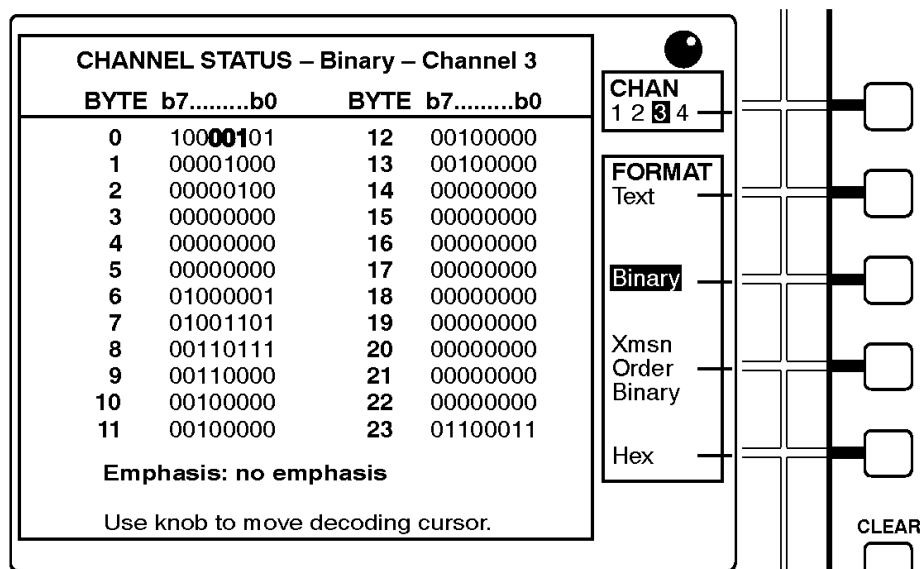

Figure 29: The Channel Status view, binary mode
You can choose to display the Channel Status in one of four formats: fully decoded text (the default, illustrated in Figure 28), binary (Figure 29), transmission-order binary, or hexadecimal. To change display formats, press the soft button assigned to the desired format, as listed on the right side of the Channel Status View.
- In binary display mode (illustrated in Figure 29), you may turn the multi-function knob to highlight various bits or blocks of bits for same-screen “plain English” decoding. For example, bits 3 through 5 of byte 0 indicate the (pre)emphasis, if any, that has been applied to the audio program; when you move the screen highlight to those bits, the type of emphasis will be displayed in decoded text near the bottom of the screen. Only one channel at a time is shown in binary mode; the selected channel is indicated on the top line of the display. Press the CHAN soft button repeatedly to cycle among the four input channels.